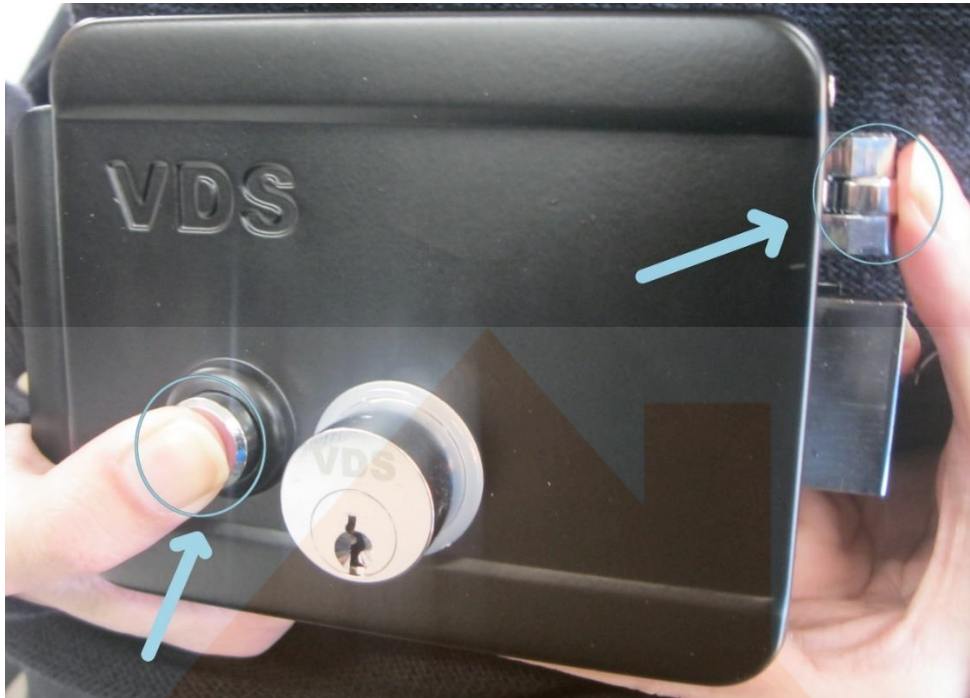

Fig 4: Manual release demonstration
- Releasing the internal catch allows the Release Roller to push open the Door Latch. To test this mechanism, it is necessary to push the Release Roller until the Release Button triggers the mechanism and opens the lock as shown in Figure 4.